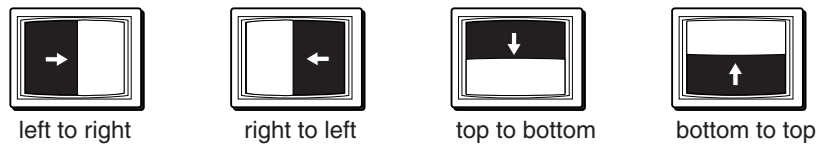

Figure 3-32 — Standard wipe transitions
- A **standard wipe** causes the preview image to appear to unroll over the program image horizontally or vertically. A standard wipe can have either hard (sharp) or soft (fuzzy) edges. The preview image can have the following transitions (figure 3-32):